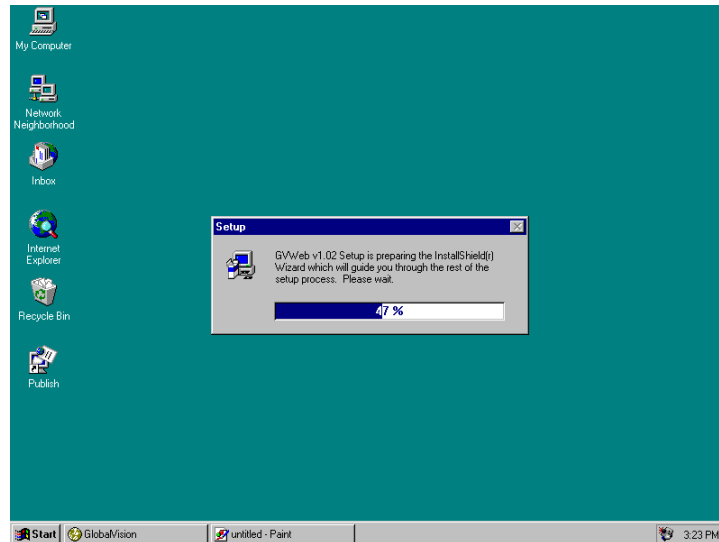

Figure 25 – GlobalVision Web Setup screen
3. The SETUP.EXE program loads all installation programs and files into the **INSTALLSHIELD WIZARD**, which guides the rest of the installation. The INSTALLSHIELD WIZARD SETUP progress bar appears. See Figure 25.